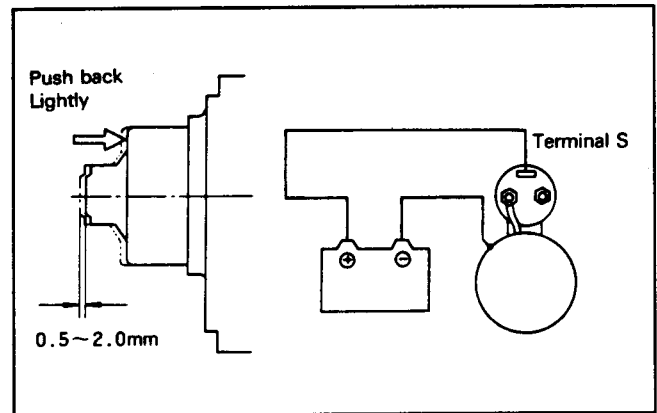

Figure 18
1. Install 12 volt battery between the "S" terminal and the starter body (Fig. 18). The pinion should protrude and stop.